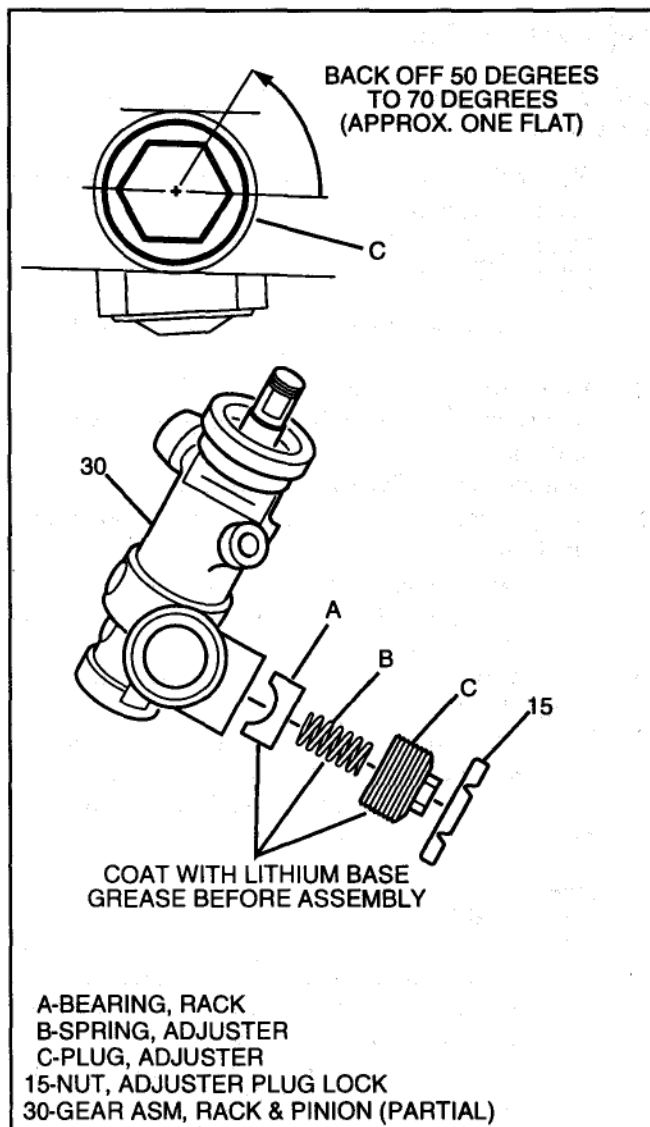

Figure 15 Rack Bearing Installation and Adjustment
- Hex lock nut (32) to 30 N•m (22 lb. ft.).
2. Dust cover (33) to gear assembly (30).
3. Stub shaft bearing annulus assembly (21) onto valve stub shaft.
5. Apply a small quantity of grease between seals (20) and (18).
- Stub shaft seal (20) and stub shaft dust seal (18) over protector and into gear assembly (30).
6. Retaining ring (17) into groove in gear assembly (30).
8. Coat rack bearing, adjuster spring and adjuster plug with lithium base grease and install in gear assembly (30) (see Figure 15).
- With rack centered in the gear assembly (30), turn adjuster plug clockwise until it bottoms in the gear assembly, then back off 50° to 70° (approximately one flat). Check rotational torque on pinion. Maximum pinion preload torque is 1.8 N•m (16 lb. in.) (see Figure 15).